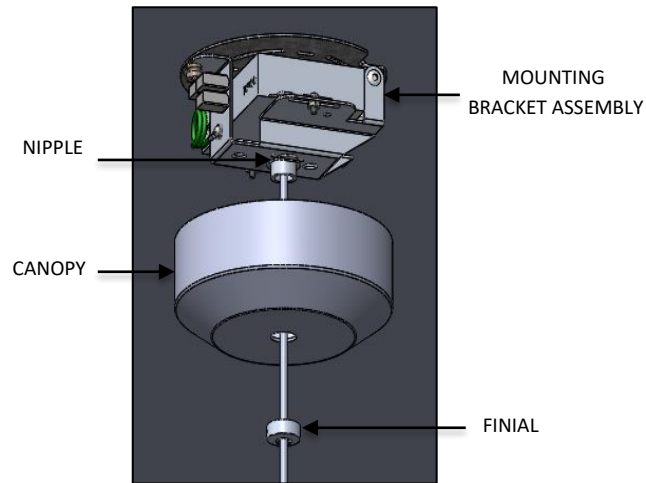

FIG. 16 – FINIAL INSTALLATION
9. Raise CANOPY and secure to ceiling by threading the FINIAL to the NIPPLE (available in MOUNTING BRACKET ASSEMBLY) as shown below in FIG. 16.